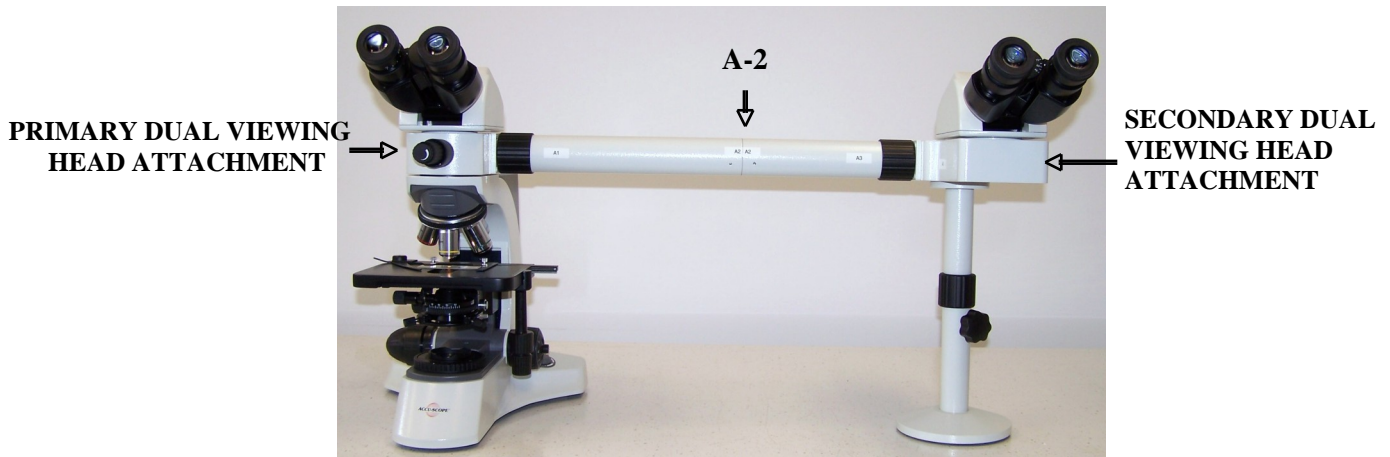

Figure 3
4. Connect the two extension tubes A-2 to A-2 (Figure 3).